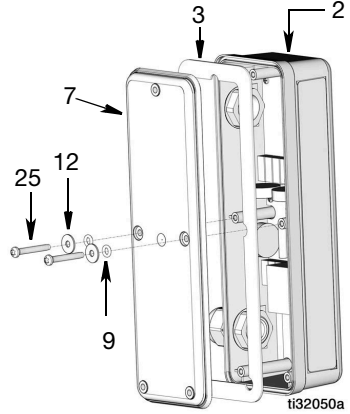

FIG. 34
4. Remove two screws (12), washers (25) and o-ring (9) from the PAC cover (7) and remove the cover and seal (3) from the PAC electronics enclosure (2) (FIG. 34).
- Install seal (3) inside PAC cover (7) (FIG. 34).
- Install cover over PAC enclosure (2). Verify all screw holes in cover and enclosure are correctly aligned (FIG. 34).